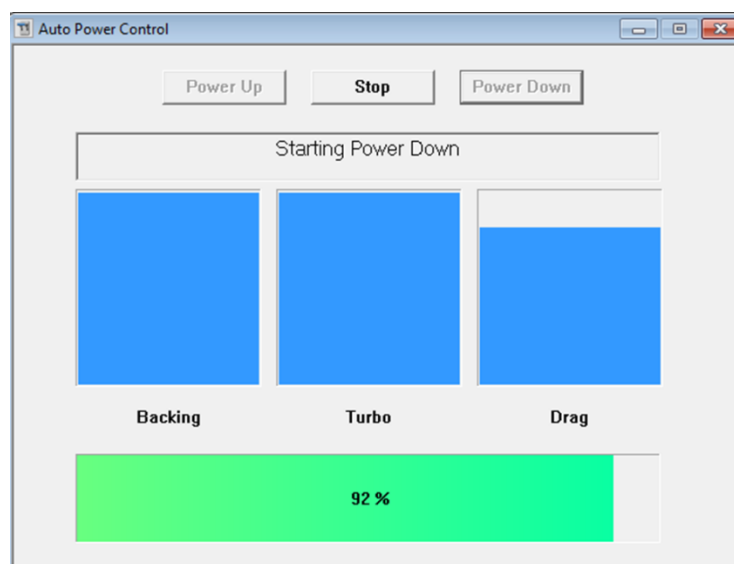

Figure 1.8 – Auto Power Control status window
- To power-up the AI-MS 1.2, click the “Power Up” icon to bring up the auto power control window (Figure 1.8). This process will take approximately 5 minutes to complete as the system vacuum needs to reach the desired pressure of  $\sim 1.0 \times 10^{-5}$  Torr (viewable in the bottom right corner of the screen).
- The AI-MS has been successfully powered-up when the auto power control progress bar reaches 100% (Figure 1.8).